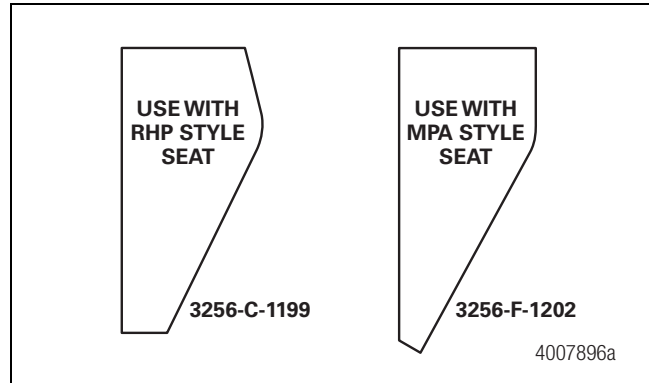

Figure 3
2. Once you've determined the axle seat type, use the appropriate template gauge from Kit 11348 for the repair procedures. For RideStar RHP series axle seats, use template 3256-C-1199. For RideSentry MPA series axle seats, use template 3256-F-1202. Figure 3.